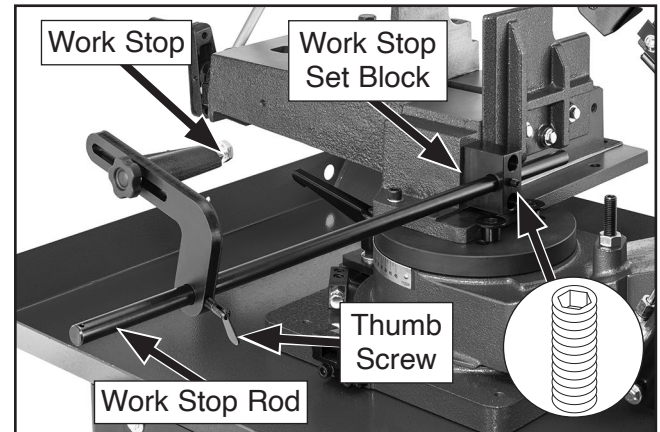

Figure 27. Work stop installed.
8. Insert work stop rod into work stop set block (see **Figure 27**).
9. Tighten set screw in work stop set block to secure work stop rod (see **Figure 27**).
10. Slide work stop onto rod, position as needed, and tighten thumb screw to secure work stop (see **Figure 27**).